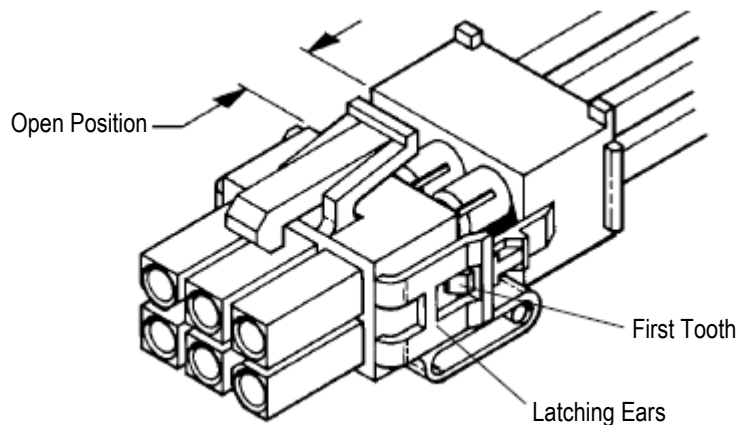

Figure 9
1. Deflect latching arms one at a time, then lightly pull wire end of the plug assembly away from housing until the first tooth of the latching arms engage. See Figure 9.